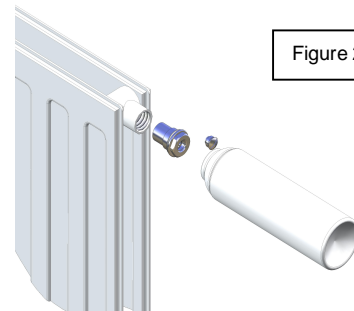

Figure 2
- Fit the Radiator Dosing Point as shown in Figure 2, tight enough to avoid leaks. **DO NOT OVER TIGHTEN**